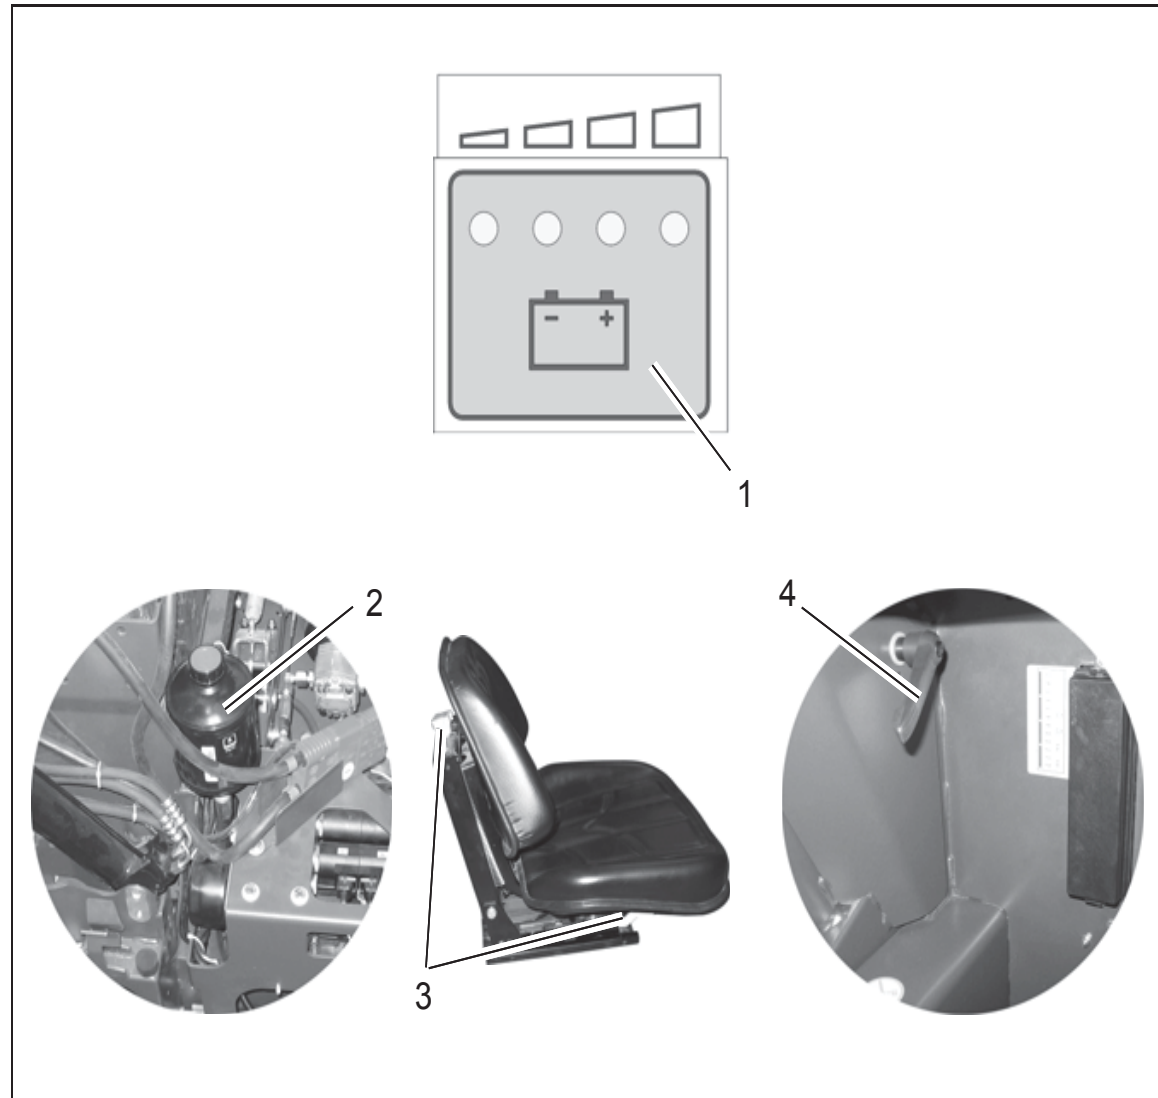

Fig.3
2. Check the battery charge status (Fig. 3/1); charge the battery, if necessary.
3. Check the hydraulic oil level in the hydraulic tank (Fig. 3/2), refill if necessary.
4. Check the adjustment of the driver's seat (Fig. 3/3).
5. Check the steering wheel adjustment, readjust with the lever (Fig. 3/4), if necessary.